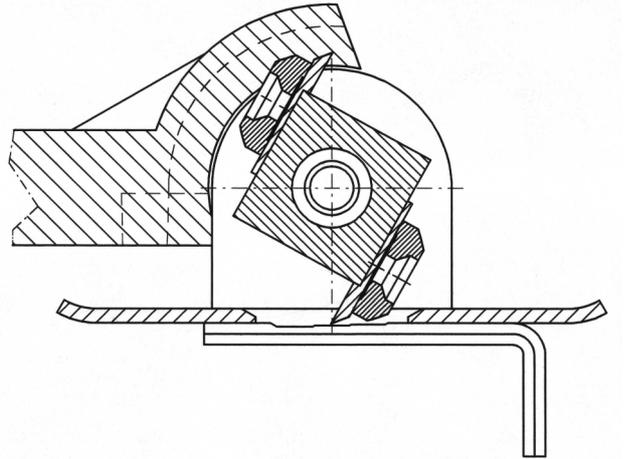

Figure 14
- Set the key (12) with the notches to the knife cylinder (03) facing the guiding plate (19) (see figure 14).
- Make contact between the knife (09) and key (19) at the desired cutting depth between 0.4 and 1.0 mm (see figure 14 and 17). The cylinder (03) must be positioned so that the knife (09) protrudes maximum through the guiding plate (19). Set the knives (09) so that they protrude max. 1 mm below the guiding plate (19).
- Keep the knives (09) in this position. All 4 knives are set the same way.